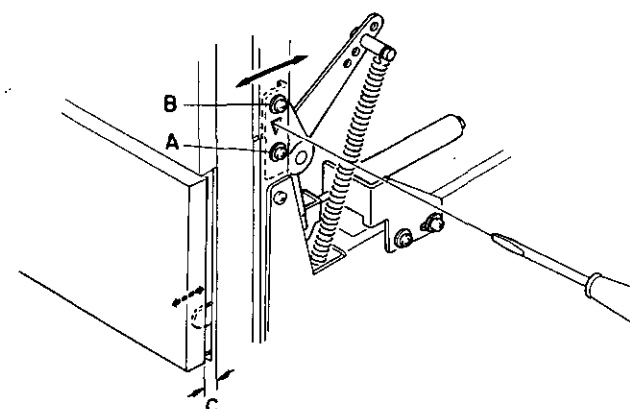

Fig. 4.26
- (1) Remove the Top Cover Ass'y, referring to item 2.1.
- (2) Loosen the screw (A), then slightly loosen the screw (B).
- (3) By turning a screwdriver as shown in Fig. 4.26, adjust the gap (C) at the lower part of the Adjustment Lid until it becomes equal to the gap at the upper part of the Adjustment Lid. Clockwise turning will result in decreasing the gap (C) and vice versa.
- (4) Tighten the 2 screws (A and B).